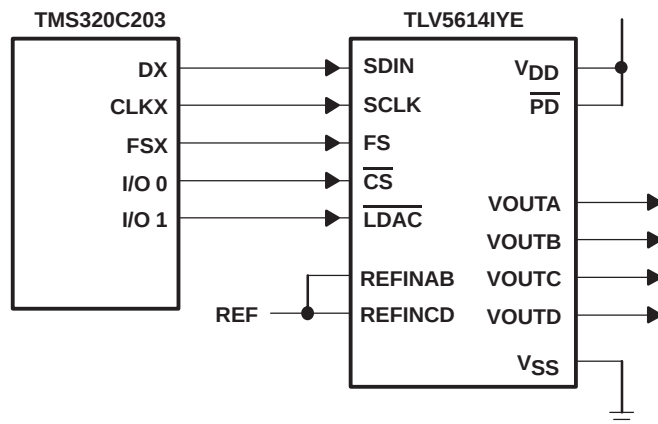

Figure 18. TLV5614IYE Interfaced With TMS320C203
Figure 18 shows an example of how to connect the TLV5614IYE to a TMS320C203 DSP. The serial port is configured in burst mode, with FSX generated by the TMS320C203 to provide the frame sync (FS) input to the TLV5614IYE. Data is transmitted on the DX line, with the serial clock input on the CLKX line. The general-purpose input/output port bits IO0 and IO1 are used to generate the chip select ($\overline{CS}$) and DAC latch update ($\overline{LDAC}$) inputs to the TLV5614IYE. The active low power down ($\overline{PD}$) is pulled high all the time to ensure the DACs are enabled.